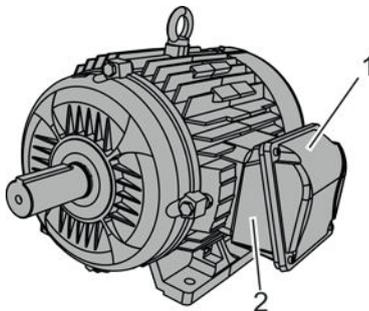

Fig. 41: Connecting the electric motor, example
1. ➤ Disassemble the connection box cover (Fig. 41/1) from the connection box (Fig. 41/2).
2. ➤ Adjust the cable bushing on the underside of the connection box (Fig. 41/2) to the cable diameter.